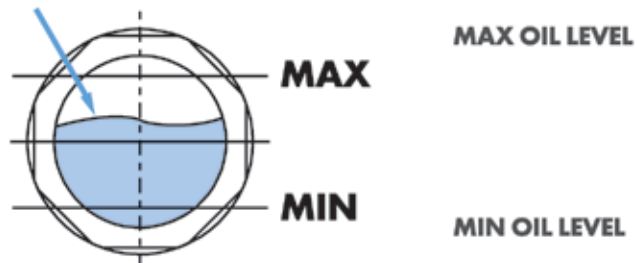

Fig.7
- (1) During the operation the oil level of pump must always be visible between the Max and Min mark (refer to Fig.7). Add oil if the oil level is lower than Min mark and discharge oil(refer to Fig.2) if the oil level is higher than Max mark.
- (2) Normally the oil is clear and transparent. If the oil darkens, it should be changed.